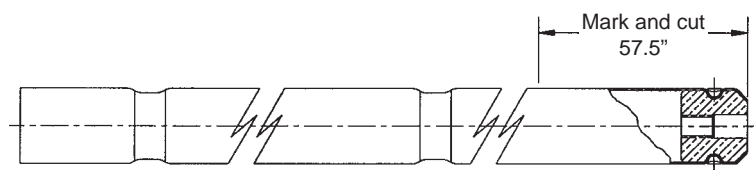

Figure 3
- b. With inner conductor tube removed, measure and mark 57.5" from the brass plug end of inner conductor. Refer to Figure 3.